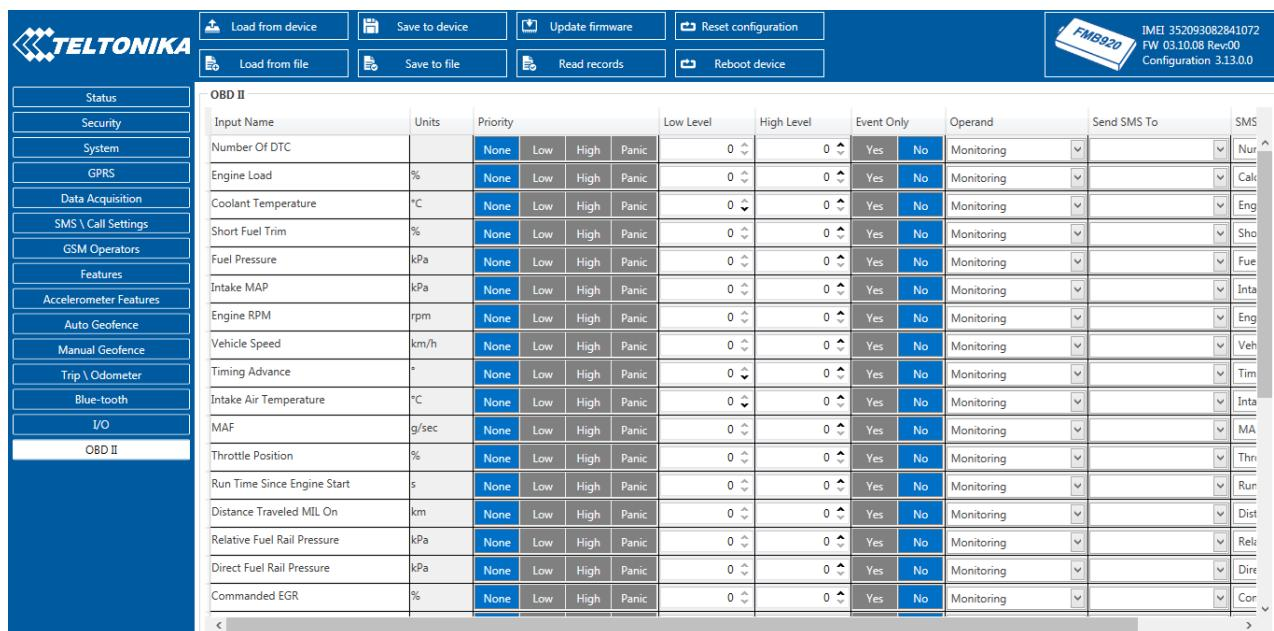

Figure 44 OBD II Blue-tooth settings.
9. Go to “OBD II (Blue-tooth)” in left menu and select priority and others parameters visible at **Figure 44**.